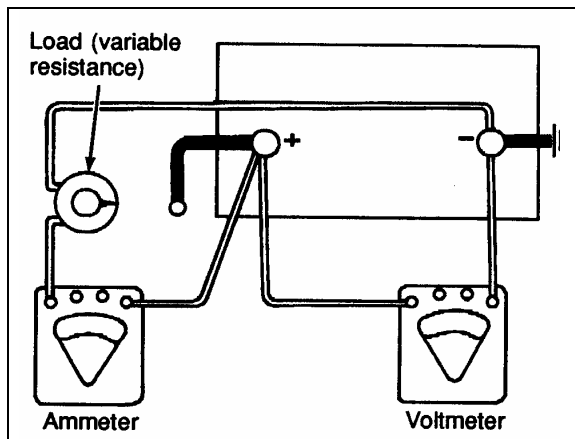

FIGURE 26: LOAD TEST
1. Connect a voltmeter, ammeter, and a variable load resistance as illustrated in figure 26.